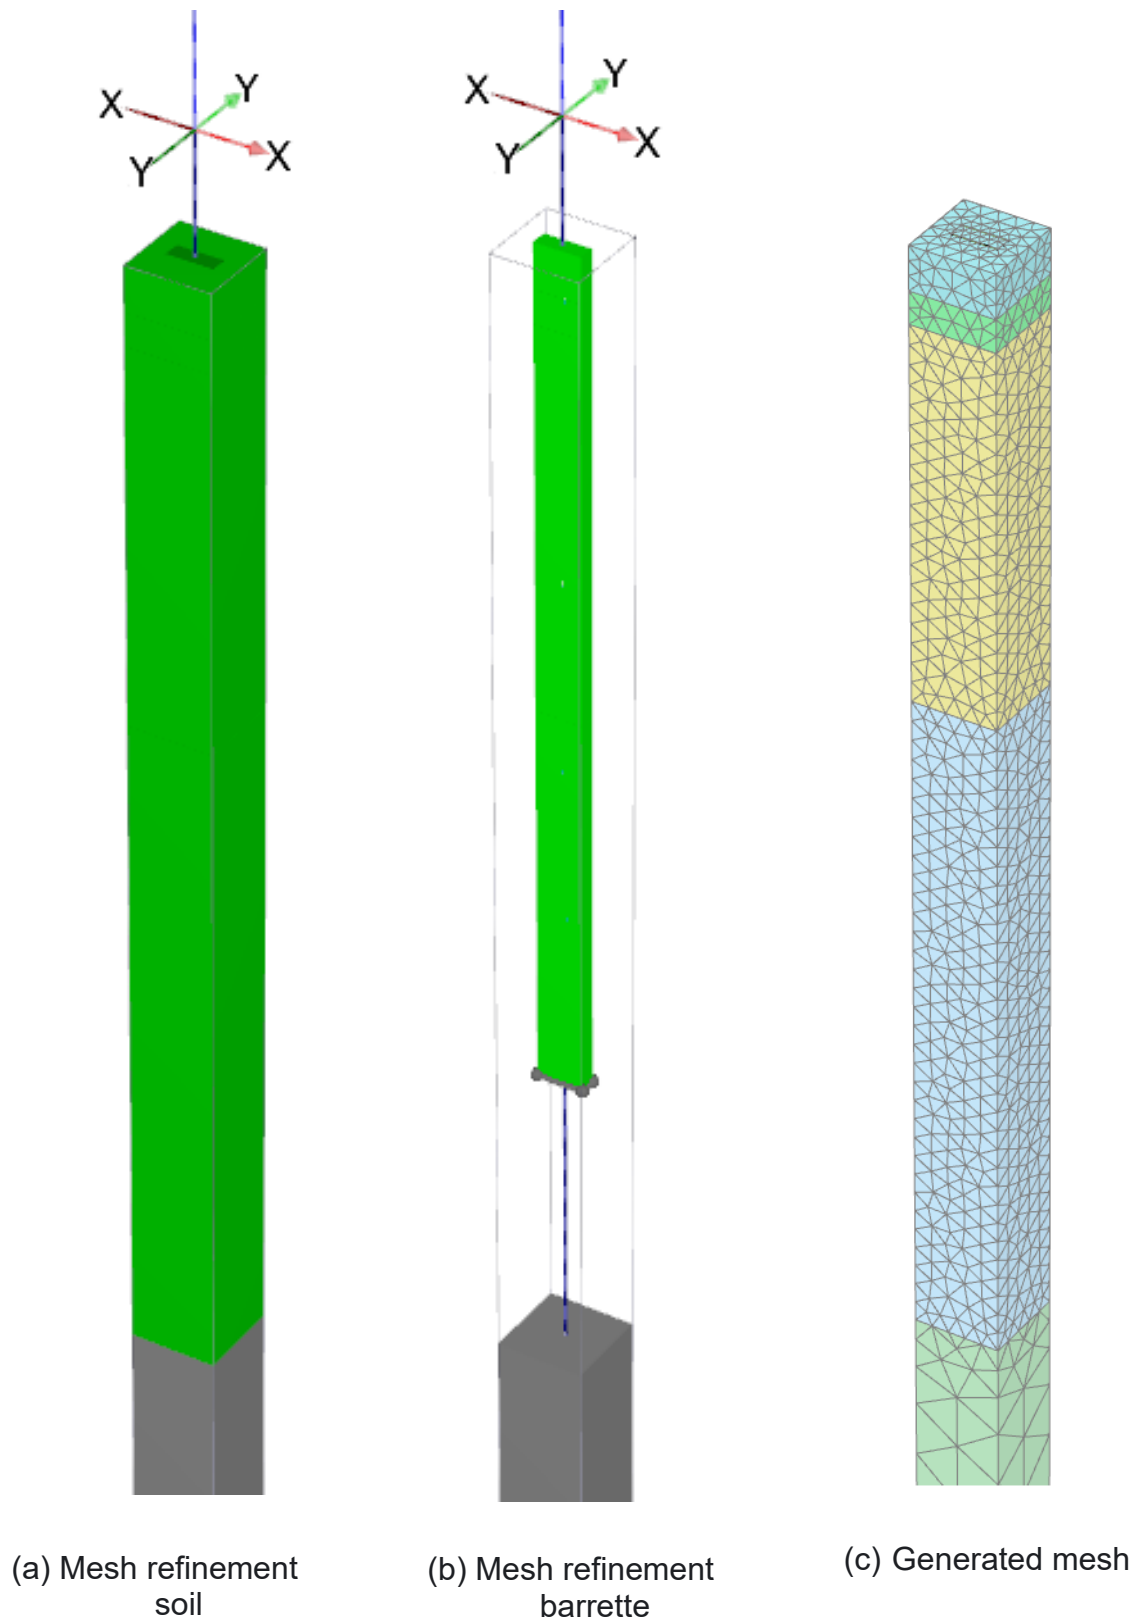

Figure 4: Mesh definition
- Select the four top clusters surrounding the barrette lateral outer contour and set their respective coarseness factor to 0.2 (see Figure 4(a)).
- Select the four inner soil clusters corresponding to the barrette set their respective coarseness factor to 0.1 (see Figure 4(b)).
- Click on *Generate mesh* and set the *Element distribution* to *Medium*. The generated mesh is presented in Figure 4(c).